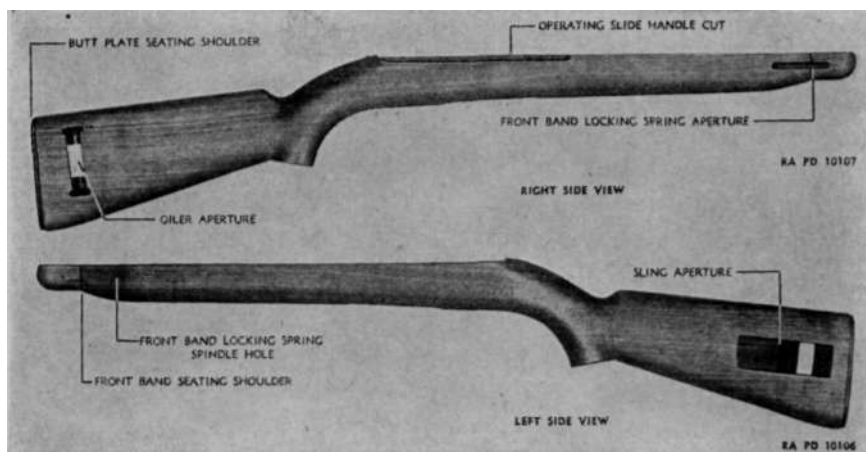

Figure 59. Stock showing apertures — carbines, cal. .30, M1.
(4) Remove grip and recoil plate by unscrewing the grip screw counterclockwise from top of recoil plate.
a. STOCK (EXCEPT M1A1) (fig. 59). (1) Inspect stock for cracks, scoring, chipping, blemishes, and excessive dryness. Inspect cuts and apertures for chipping and burs, for wear due to interference with moving parts, and for excessive friction in assembling.